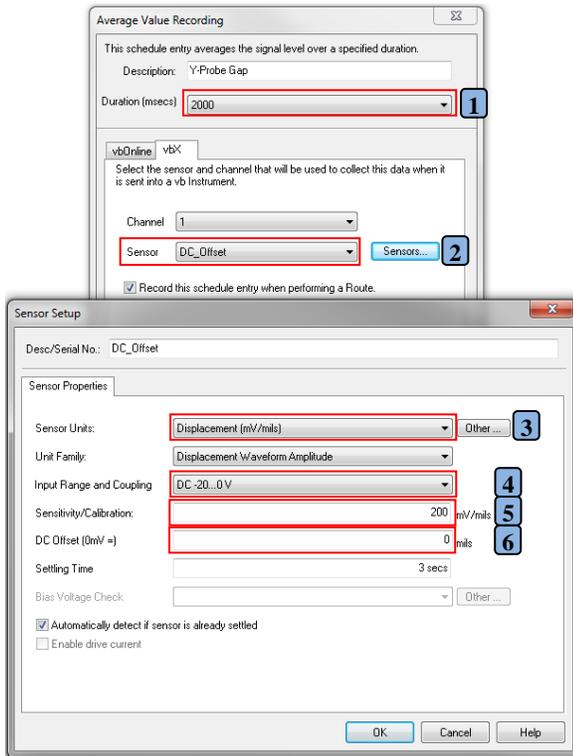

Figure 4: Gap Voltage and Thrust Position Measurement Configuration
5. Configure **Average Value “Schedule Entry”** for the gap voltage measurement. See **Figure 4**.
Gap Voltage Configuration Steps (Figure 4):
Thrust Position Configuration Steps (Figure 4):
Collecting thrust position from a monitor is very similar to that of gap voltage; with a few extra steps required to ensure that the SCOUT measurement matches that of the monitor. Start by configuring a new **Average Value Schedule Entry** for the thrust position measurement and then refer to Figure 4 and follow the steps below: